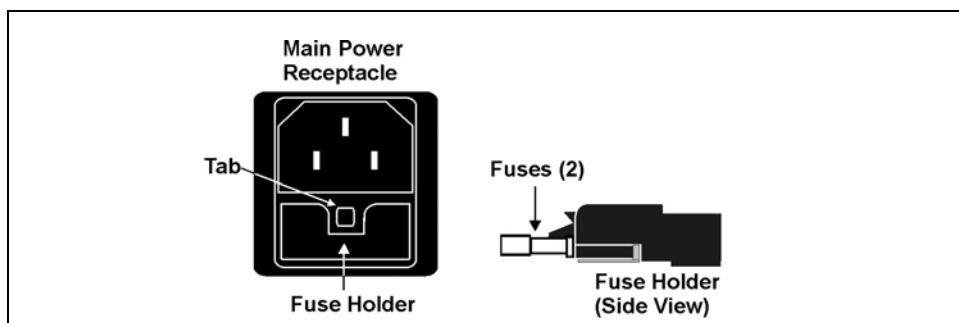

Figure 5-30. Main Power Fuse Holder
2. The fuse holder is part of the main power receptacle (see Figure 5-30) on the ICS-2000 rear panel. To remove the fuse holder, squeeze the tab on the top of the holder to release it and pull the holder straight out of its compartment.